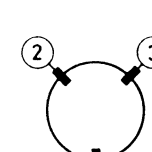

Fig. 5d
The dynamic convergence is achieved by vertical and horizontal tilting of the deflection unit. To secure the right position of the deflection unit, three rubber wedges are fitted between the glass of the picture tube and the deflection unit, as shown in Fig. 5d or 6d.
6. Remove wedge 1, to obtain the condition shown in Fig. 5d or 6d.